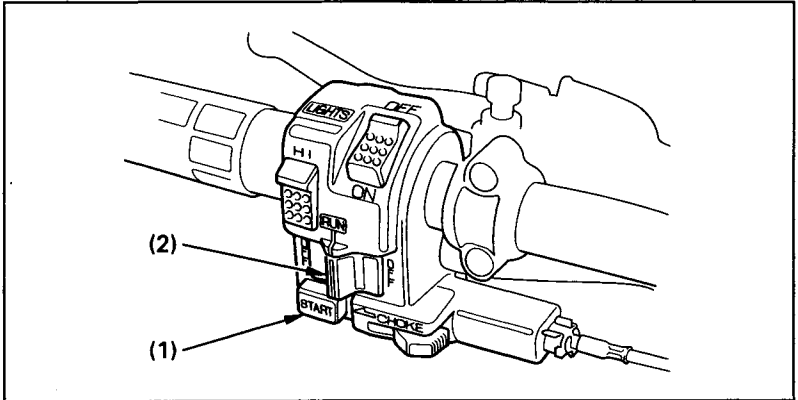

Fig. 2-7 (1) Starter button (2) Engine stop switch
The starter button (Fig. 2-7) is below the engine stop switch. To start the engine, press the starter button (1), with the transmission in neutral, the ignition switch ON and the engine stop switch at RUN.